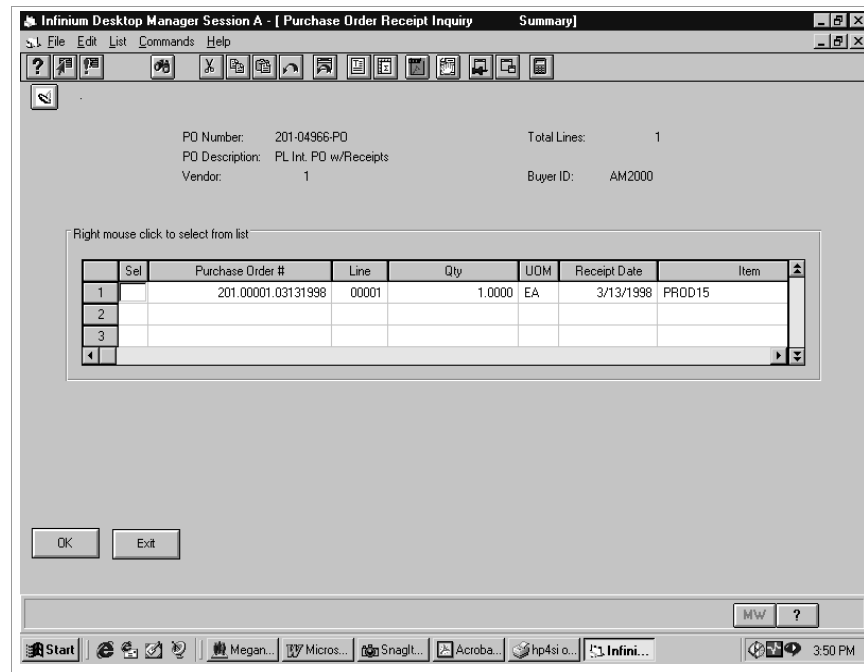

Figure 5-17: Purchase Order Receipt Inquiry Summary screen
- 2 Select **Display** or type **8** and press Enter. The system displays the screen shown in Figure 5-17.